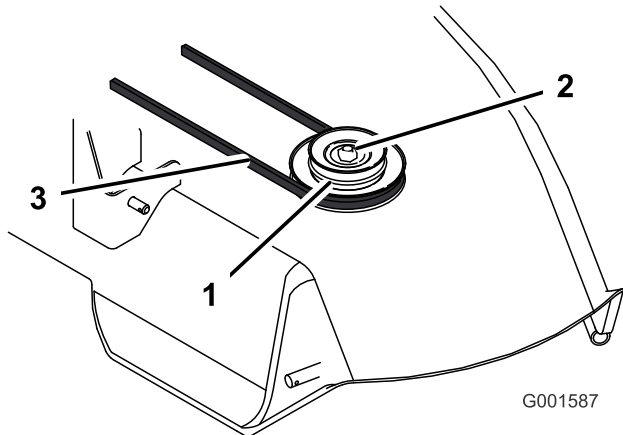

Figure 6
3. Slide the new double pulley onto the spindle shaft with the small pulley, facing up. Secure it with the previously removed 5/8 inch lock washer and nut (Figure 6).
5. Install the existing mower belt onto the bottom pulley (Figure 6).